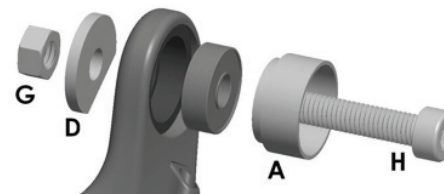

Fig. 7
2. To reassemble the Main Pivot, orient the tools as shown in Fig. 7. Tighten the screw to press the bearing into the Chain Stay Yoke. Repeat for both sides.